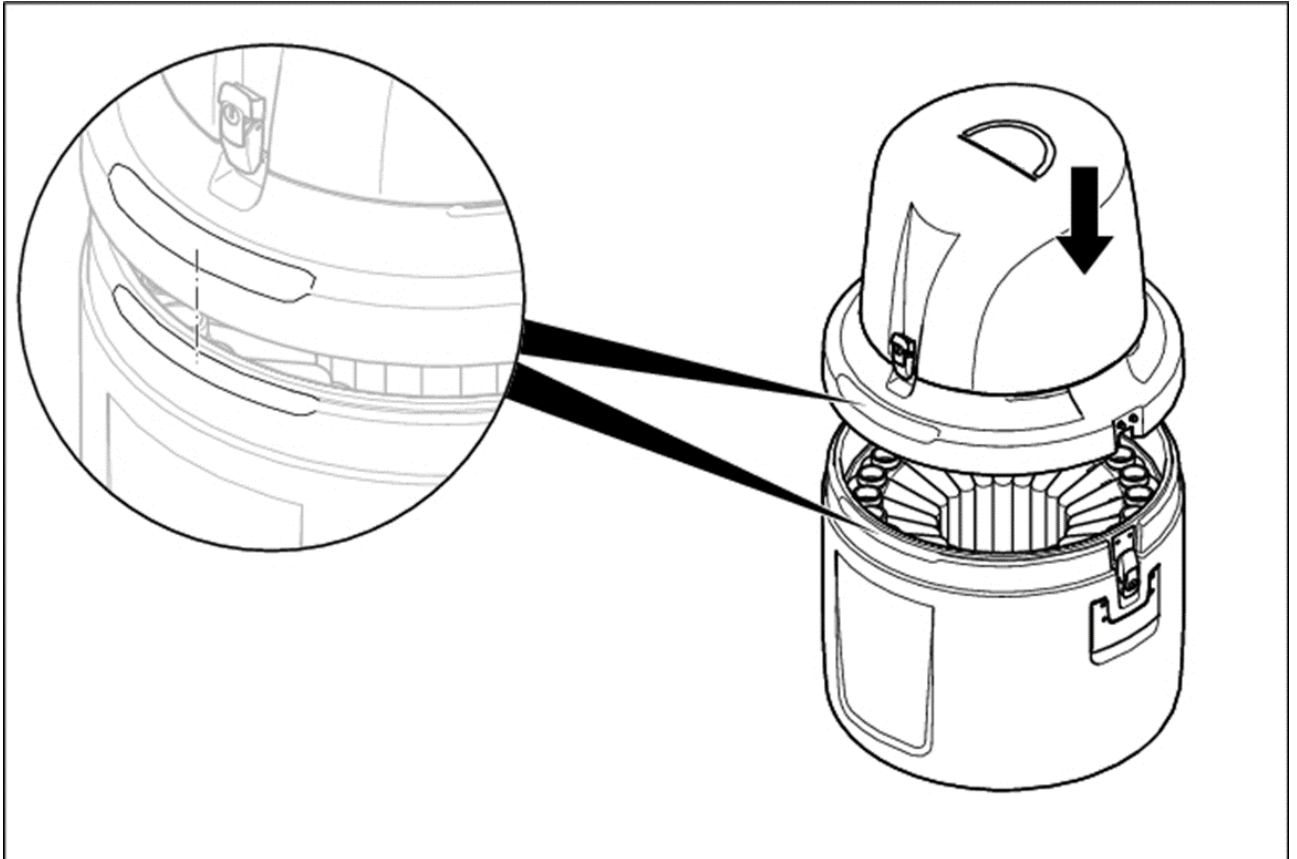

Figure 26 Attach the top part of the housing
2. Remove the top part as shown in the illustrations (figure 26, page 24)